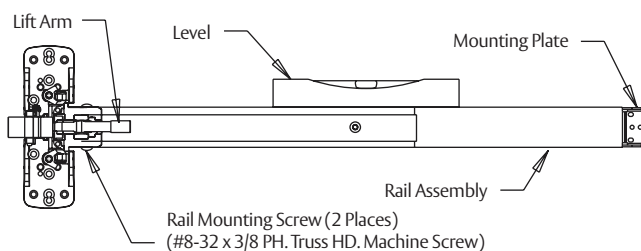

Figure 9
2. Attach rail assembly to chassis with two (2) #8 truss head machine screws. Do not tighten screws (Figure 9).